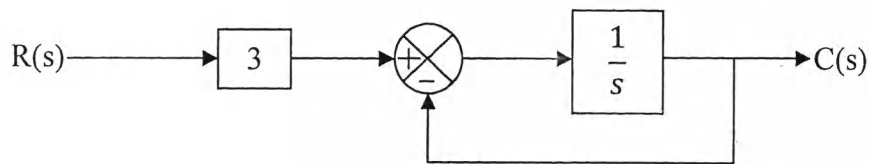

Fig. 1
5. The state space matrix for the transfer function $\frac{C(s)}{R(s)}$ of the system shown in Fig. 1 is ...